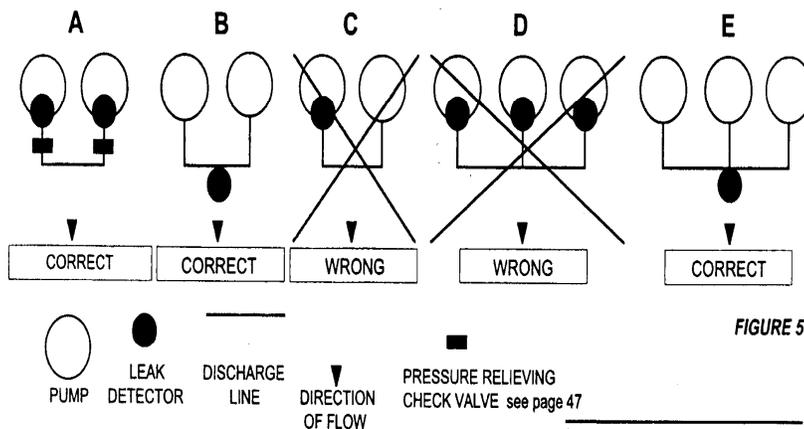

FIGURE 5
c. Assuming that the leak detectors were mounted directly in Red Jacket pumps, or in O38-072 housing as close to the discharge of the pumps as possible (Figure 5), most of the discharge line would be monitored by the leak detector as the leak detector monitors the discharge line downstream from itself.